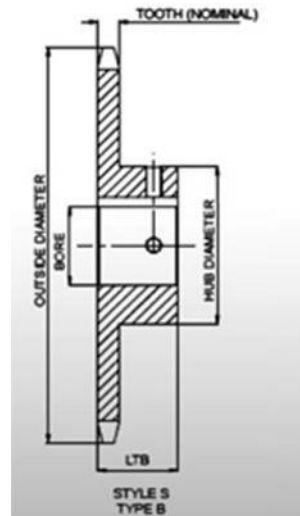

Fig. 5. Sprocket with keyway and two set screws.
- The term “finished bore” is associated with B- and C-style sprockets, where the inside diameter of the hub is machined to accommodate a specific shaft diameter: This configuration includes a standard keyway and set screws. (U.S. Tsubaki provides two set screws to ensure additional clamping force.) Finished bore hubs can also be machined to non-standard yet specific requirements depending on the needs of the application. (A standard finished bore sprocket is shown in Fig. 5.)